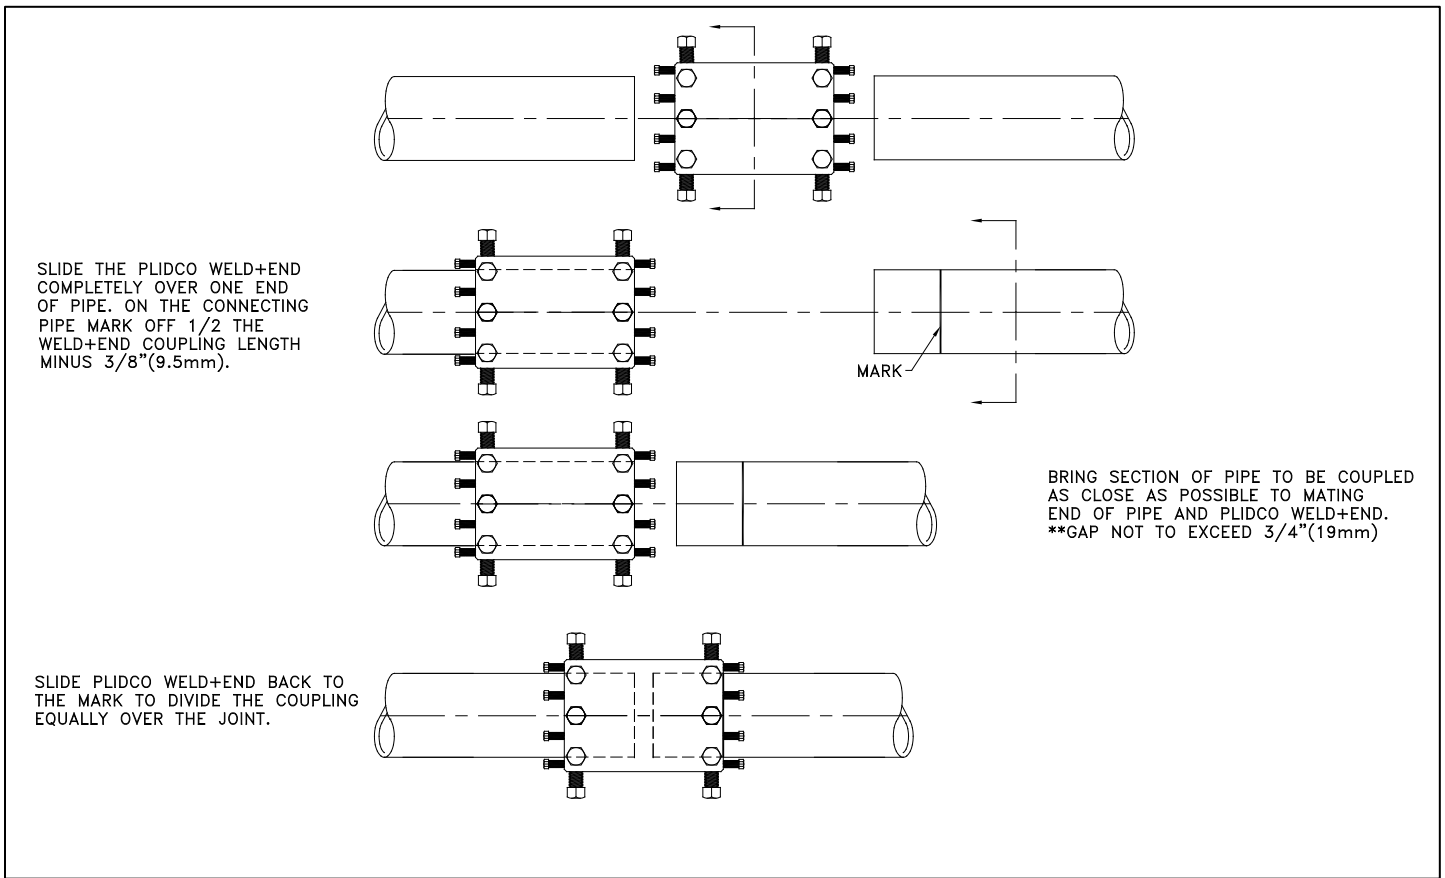

Figure 2
- Slide the PLIDCO Weld+Ends completely over one end of the pipe. Mark on the pipe one-half the PLIDCO Weld+Ends coupling's length from the middle of gap (recommended gap not to exceed 3/4 inch (19 mm)). Slide the PLIDCO Weld+Ends back to the mark to divide the coupling equally over the joint. (See Figure 2)